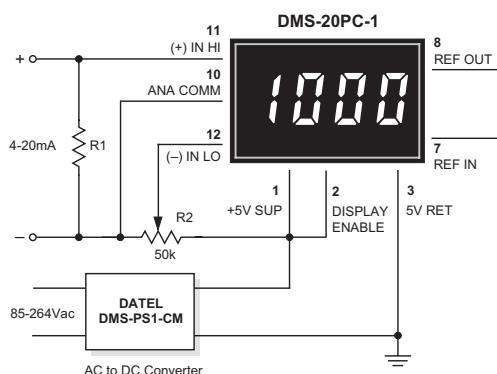

Figure 7. 4-to-20mA Current Loop Operation
- 5. Process Control (4-to-20mA) Measurements:** In many common process-control applications, a 4-to-20mA current loop is used to transmit information. Because DMS-20PC meters have such high input impedance, a simple shunt resistor across the meter's input can be used to convert the loop current to a voltage. See Figure 7. The value of the shunt resistor is a function of the scaling requirements of the particular application and can be calculated using the following equation:
To calibrate the circuit of Figure 7, perform the following: